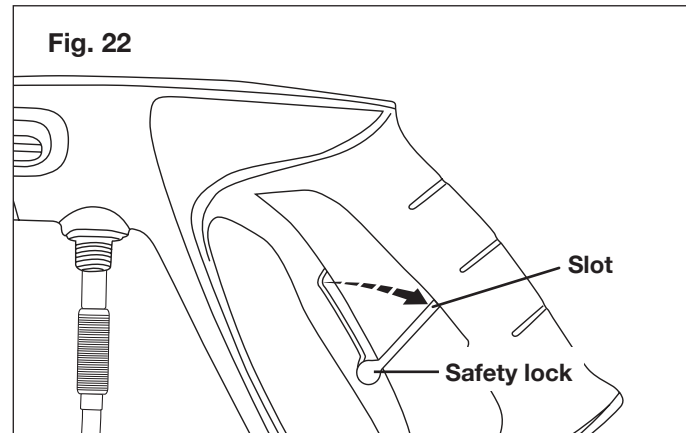

Fig. 22
2. Engage the safety lock on the trigger handle by pushing up on the safety lock until it *clicks* into the slot (Fig. 22).
5. Engage the safety lock on the trigger handle by pushing up on the safety lock until it *clicks* into the slot (Fig. 22).
3. Engage the safety lock on the trigger handle by pushing up on the safety lock until it clicks into the slot (Fig. 22).
1. Engage the gun safety lock (Fig. 22).
2. Turn the switch to the OFF (0) position.